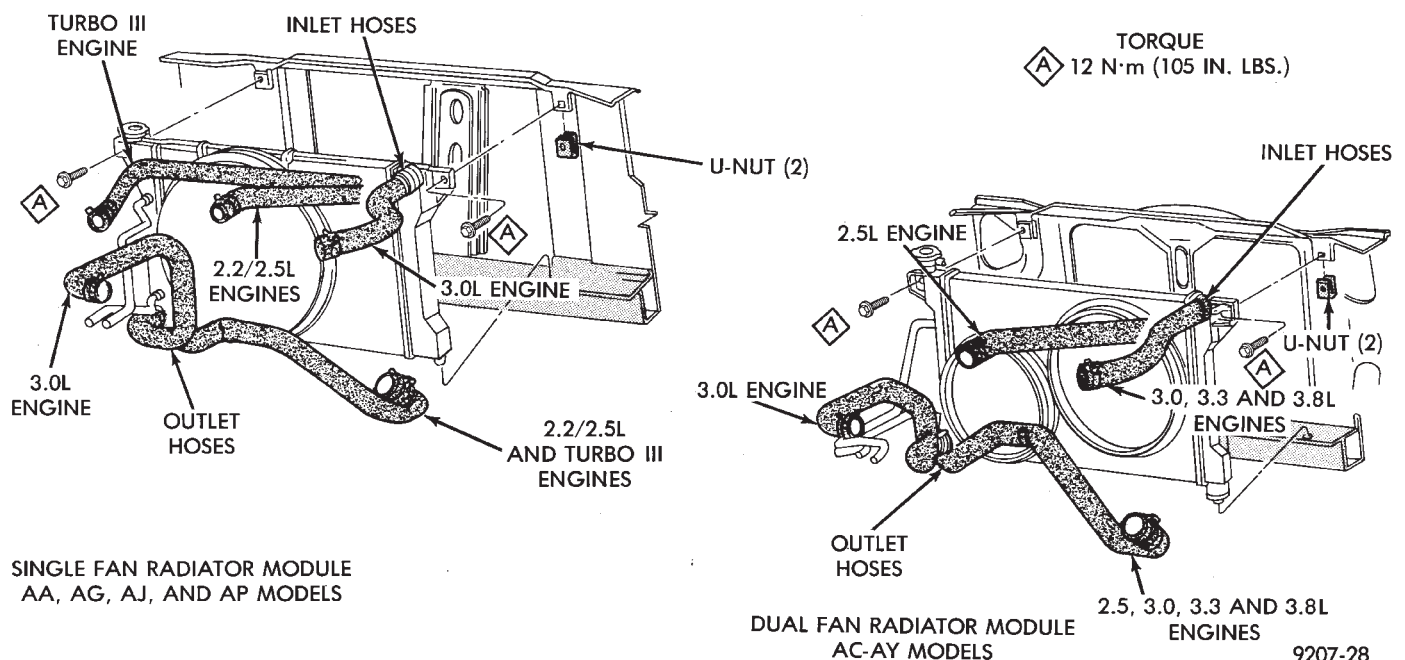

Fig. 11 Radiator Modules—All Models
(2) Drain cooling system. Refer to Draining Cooling System of this section.
(3) Remove hose clamps and hoses from the radiator (Fig. 11). Remove coolant reserve system tank to filler neck tube.
(4) Remove automatic transmission hoses, if equipped.
(5) Remove fan and fan support assembly by disconnecting fan motor electrical connector. Remove fan shroud retaining clips, located on the top and bottom of the shroud for AA, AG, AJ and AP vehicles. AC/AY vehicle retainer clips are located on the top only. Lift shroud up and out of bottom shroud attachment clips separating shroud from radiator. Fan damage should always be avoided.
(6) Remove upper radiator mounting screws. Disconnect the engine block heater wire if equipped.
(7) Remove the air conditioning condenser attaching screws located at the top front of the radiator, if equipped.